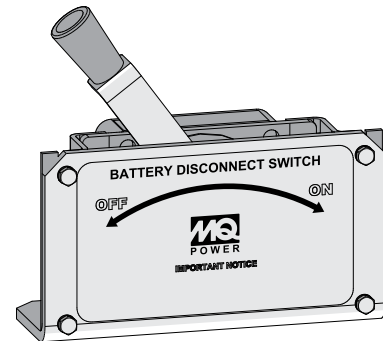

Figure 8. Battery Switch (OFF)
2. Place the **Battery switch** (Figure 8) in the **OFF** position.